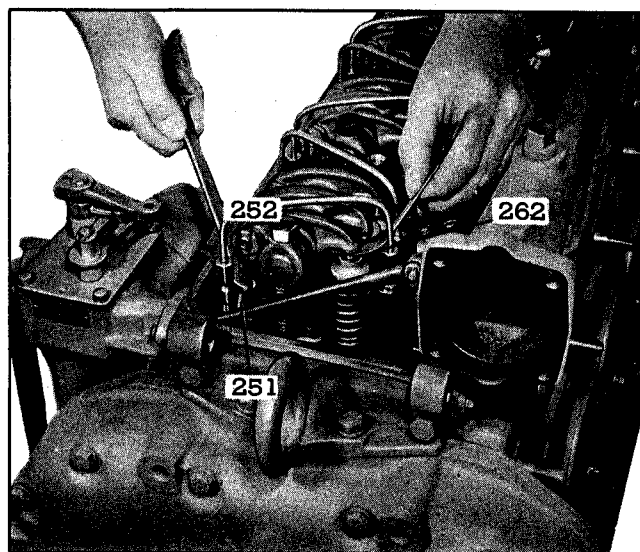

Fig. 2—Adjusting Valve Clearance—Feeler Gauge KMO 233.
- Refer to Fig. 2 and loosen push rod lock nut (252).
- Place the .010" end of feeler gauge (262) between the end of valve stem and rocker arm. Adjust push rod (251) to obtain a smooth "pull" of the feeler gauge.
- Check and adjust the remaining valves as outlined in items 1 through 6.